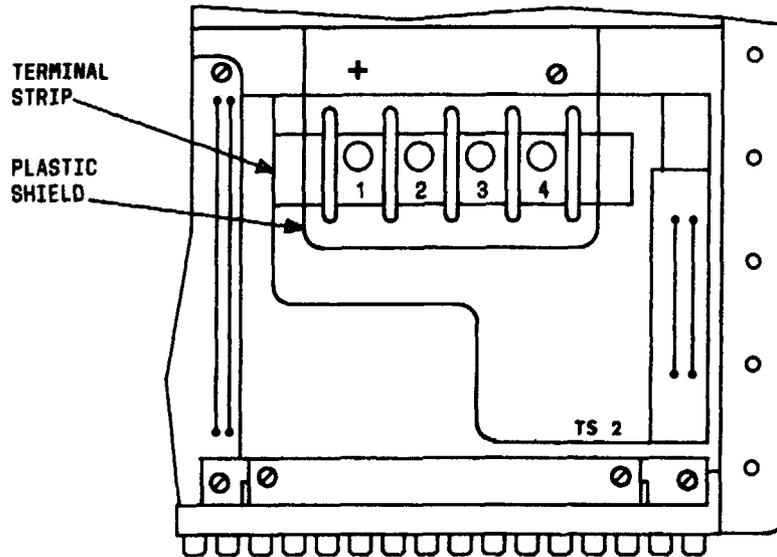

FIG. 2
[16] Locate terminal strip, remove plastic cover, and notice holes in plastic shield [FIG. 2]
2. If supplied, 20-Hz wiring appears at TS2 terminals 5 and 6 at rear of bank [FIG. 2, Page 3]